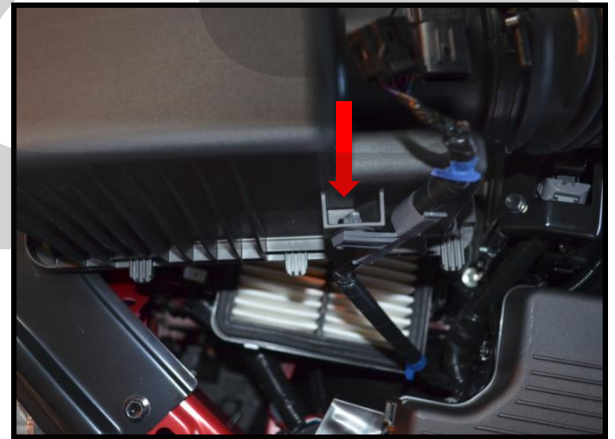

Figure 3g
- h) **Remove two (2) 10mm bolts** that hold the lower air box (red circles in Figure 3g) and remove it from the car. Simply pull up.